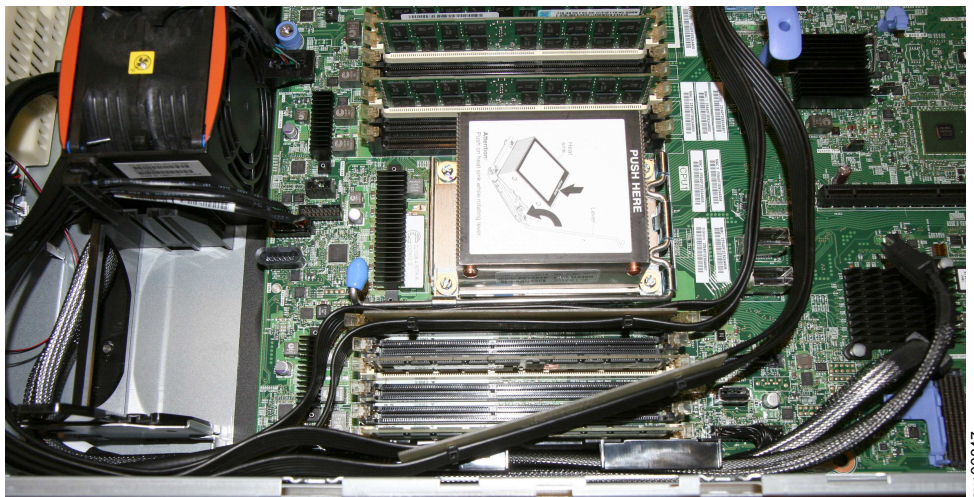

Figure 117. Bend the power cable after the dummy DIMM to avoid the heat sink
10. Press the dummy DIMM down to lock in position in slot 6, and bend the cable to avoid the raised heat sink, as shown in Figure 117.